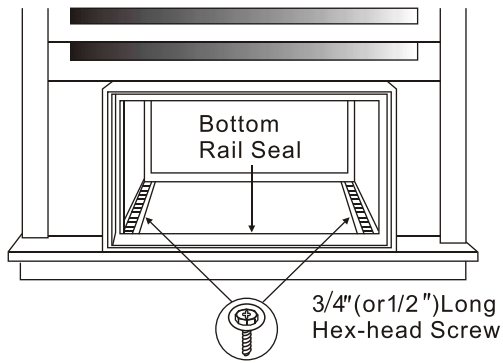

Fig. 13
4. Fasten cabinet to window sill with 2 screws into holes (You may wish to pre-drill pilot holes). (Fig.13)